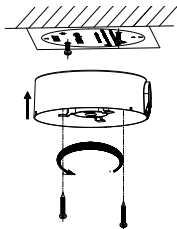

Figure 2-45 Fix the Junction Box
4. Attach the junction box to the ceiling and secure it by aligning the holes with two screws and rotating the junction box according to the direction as shown in Figure 2-45. Make sure the front arrows